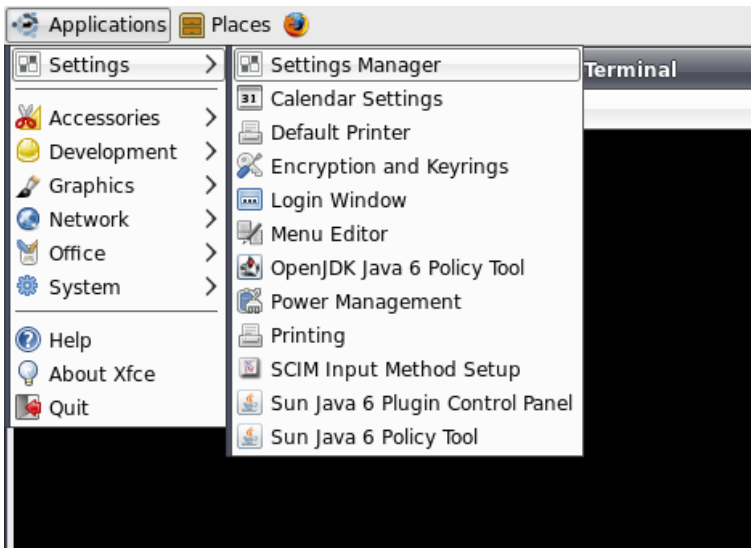

Figure 33: Calling "Xfce Settings Manager" from the start menu
**Adding more keyboard layouts** is possible by using "Xfce Settings Manager" which can be directly called from the start menu: "Applications -> Settings -> Settings Manager" (see Figure 33).